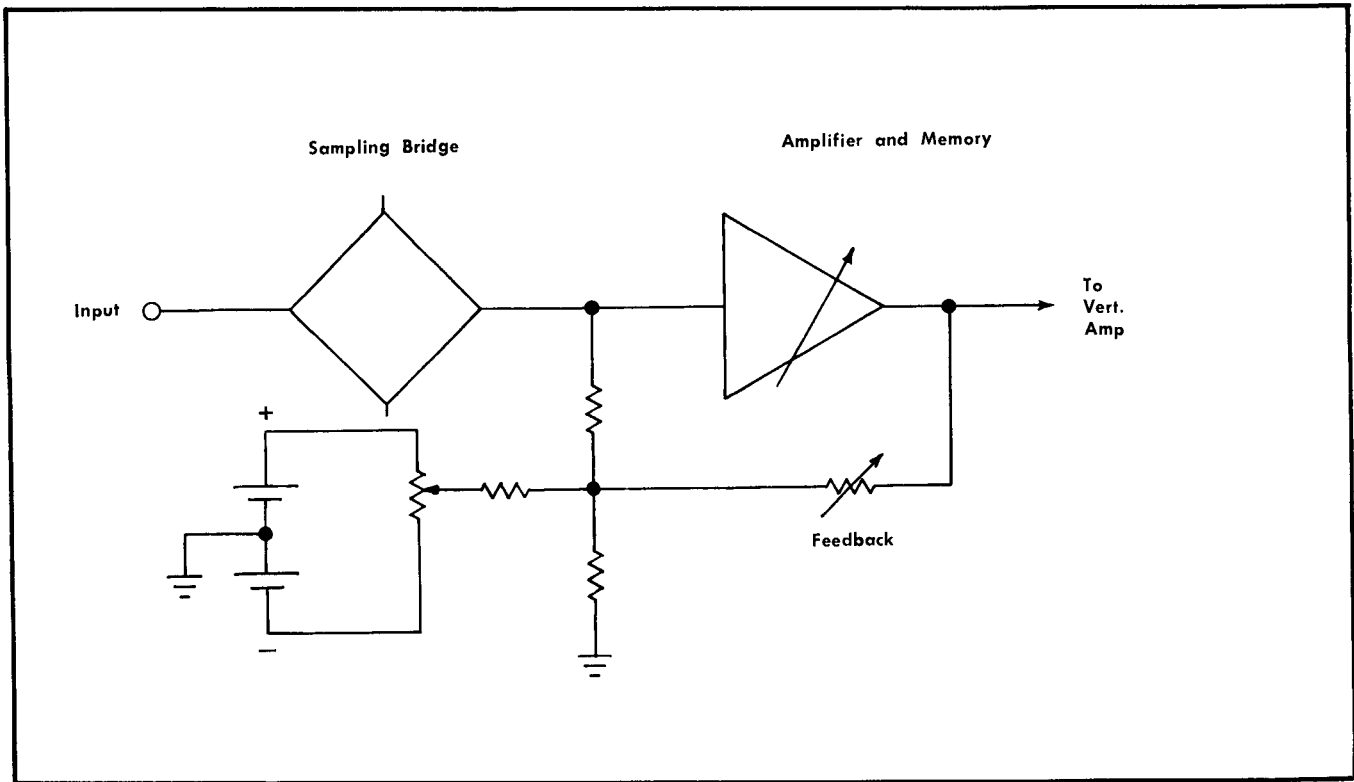

Fig. 2-7. Method of adding a DC voltage to the memory feedback.
- (2) The dot response is determined by the combined forward gain of the amplifier and the feedback attenuation ratio. Dot response is controlled by changing the forward gain of the amplifier, independent of the feedback ratio.
- (3) To change the display sensitivity without changing the dot response, both the forward gain of the amplifier and the feedback attenuation ratio are changed by the same factor, as shown in Fig. 2-7. This results in a change in the output of the memory amplifier amplitude, but does not change the dot response.
Since the sampling bridge can operate linearly over a range of +2 to -2 volts of input signal, and the system has resolution capability of 2 mV/div, it is advantageous to be able to display a small vertical "window" of the input signal. Fig. 2-7 shows the method of adding a DC voltage to the memory feedback. The error signal that is produced at sampling time is no longer referenced to ground. Instead, it is referenced to the DC offset voltage. The memory feedback voltage produced is therefore the difference between the DC offset and the input signal. The selected deflection sensitivity is then centered around the DC offset voltage instead of ground.